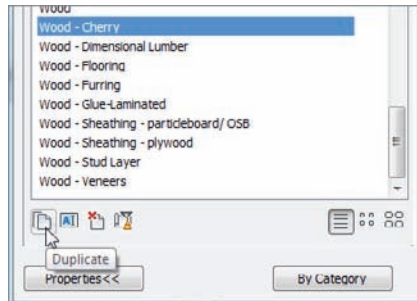

FIGURE 9.31 Duplicating a material
10. Click the Duplicate button, as shown in Figure 9.31.